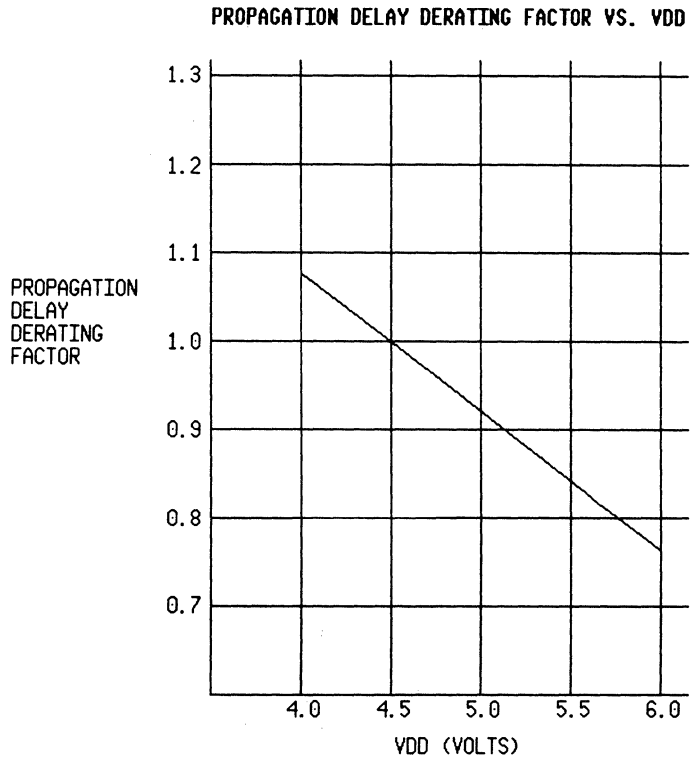
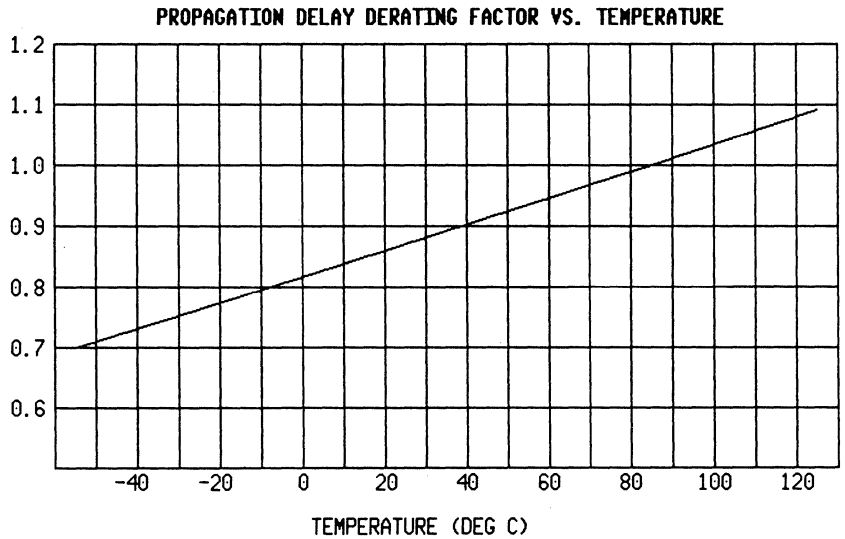

FIG. 5 PROPAGATION DELAYS VS SUPPLY VOLTAGE
FIG. 6 PROPAGATION DELAY VS TEMPERATURE
As the supply voltage is raised, propagation delay through a gate is reduced (figure 5). However, due to a reduction in carrier mobility, the propagation delay of a gate increases with a rise in temperature (figure 6).
This delay is calculated assuming worst-case parameters, an operating voltage (VDD) of 4.5 V, and an operating temperature (TA) of 85 deg. C. Performance at any other voltage or temperature can be calculated using the derating curves shown in figures 5 and 6.